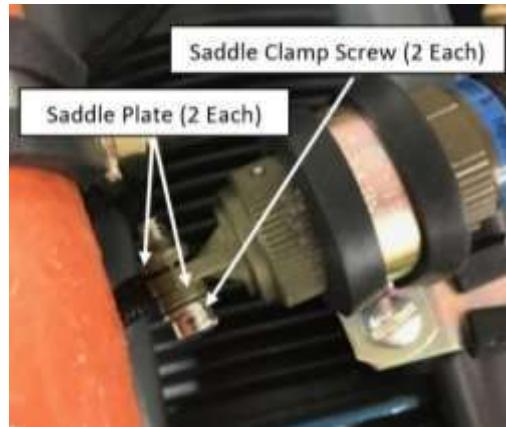

Figure 24
(26) For connectors A013-P, A014-P, A025-P and A040-P, install saddle clamp (Figure 24) as follows: